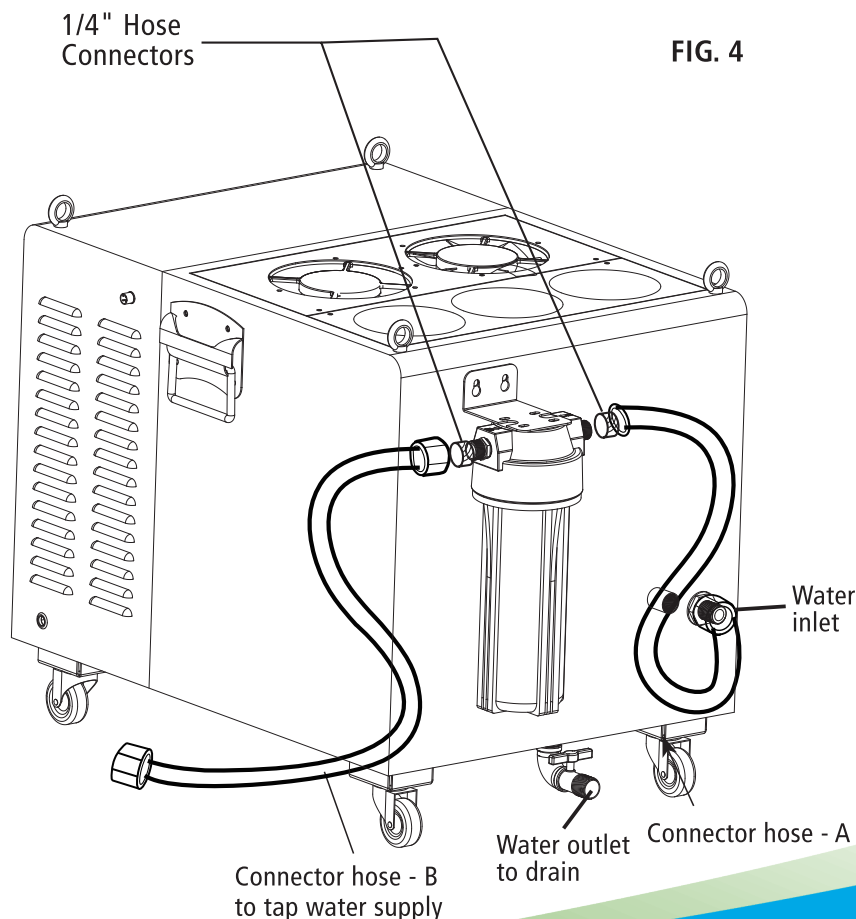

FIG. 4
- Connector hose - A: The end with the 1/4" hose connector now attaches to the filter. The other end is attached to the water inlet port on the unit. (see FIG. 4).
1. Remove all water from the water tank, using the water outlet (see Fig. 4 on page 4)